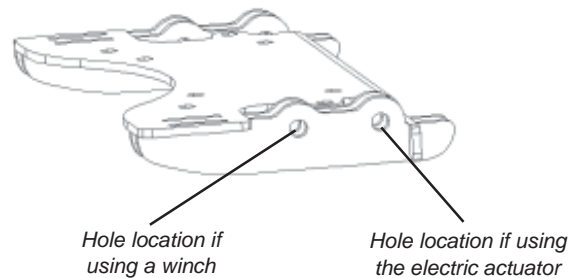

Figure 2 Plow Mounting Locations
4. If not already done so, assemble the plow per the instructions that came with the plow blade kit. Attach the plow to the plow mount (A1) using the clip pins that came with the plow blade. Use figure 2 to determine which mounting location to use. Those using a winch to lift their plow should use the forward holes, while those using an electric actuator should use the rearward holes.